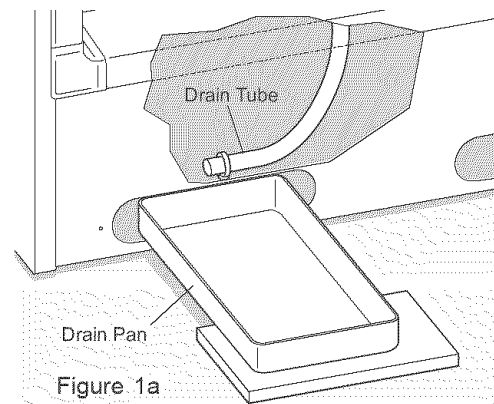

Figure 1a
- **On upright models** with a defrost drain (Figures 1a and 1b), remove the drain plug on the inside floor of the freezer by pulling straight out. To access the external drain tube on models with a base panel, first remove the two screws from the base panel. Locate the drain tube near the left center under the freezer. Place a shallow pan under the drain tube. Defrost water will drain out. Check pan occasionally so water does not overflow. A $\frac{1}{2}$ inch garden hose adapter can be used to drain the freezer directly into a floor drain. If your model is not equipped with an adapter, one can be purchased at most hardware stores. Replace the drain plug when defrosting and cleaning are completed. If the drain is left open, warm air may enter the freezer.